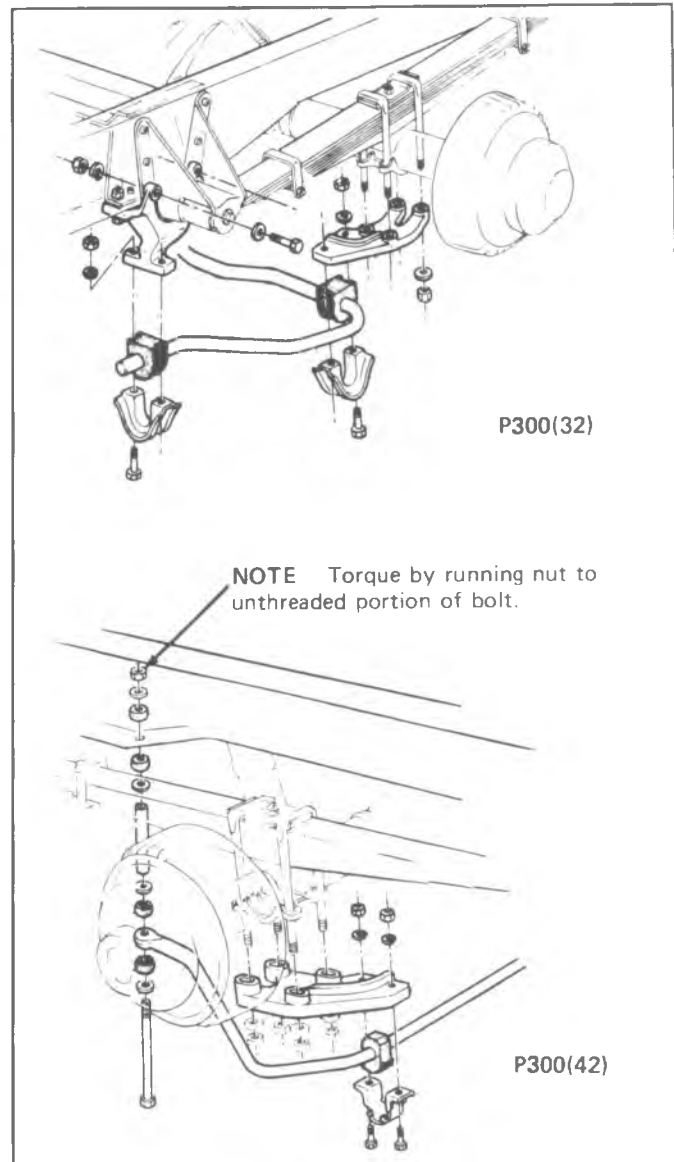

Fig. 3D-11--Rear Stabilizer Shaft-P30
1. Place spring on press and press out bushing using a suitable rod, pipe or tool as shown in Fig. 3D-21.